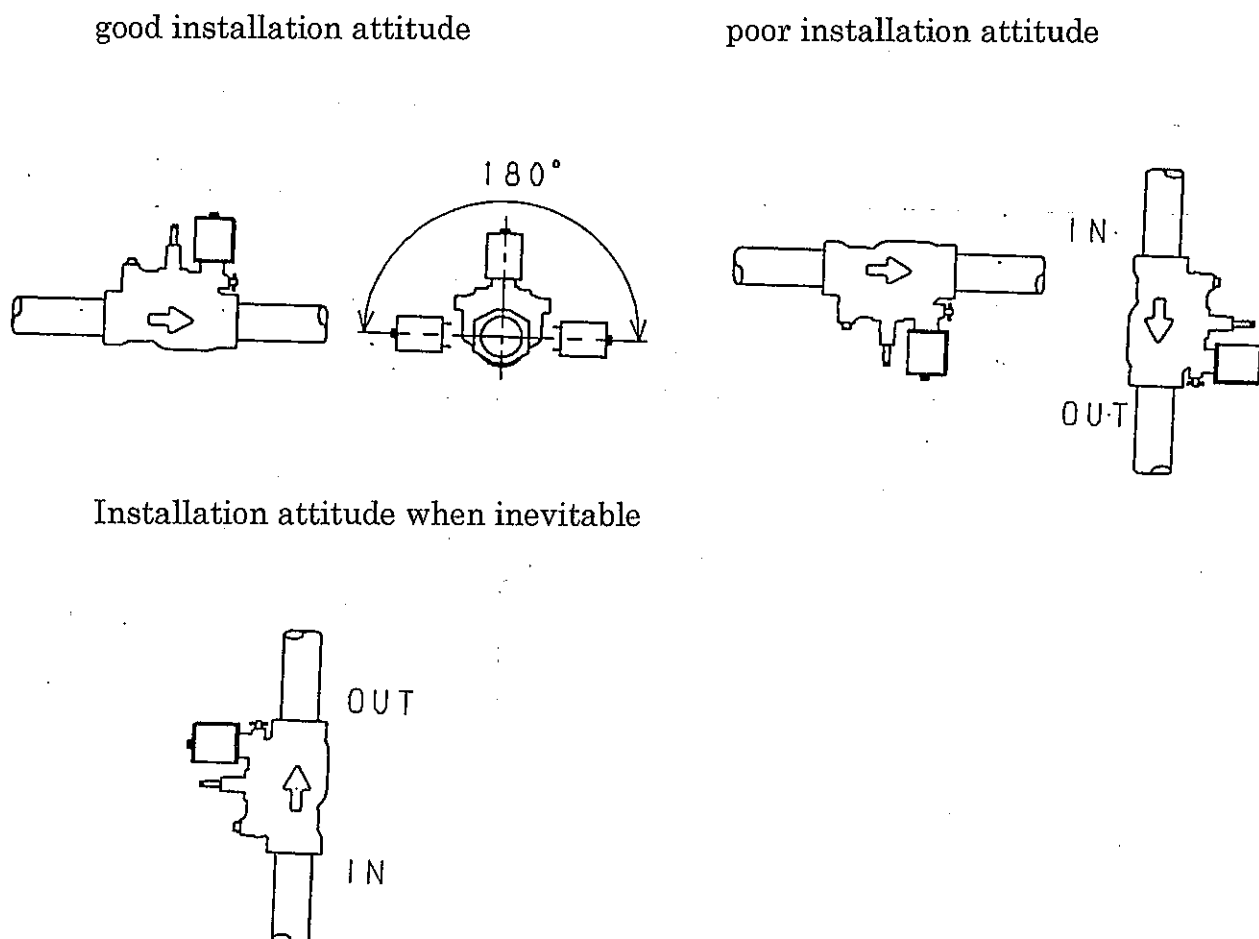

Fig. 1.
- (1) Install the solenoid valve on a horizontal piping with the coil section facing upward. If the solenoid valve must be piped vertically, pipe so that the IN port faces downward and the OUT port faces upward. (Refer to Fig. 1.)